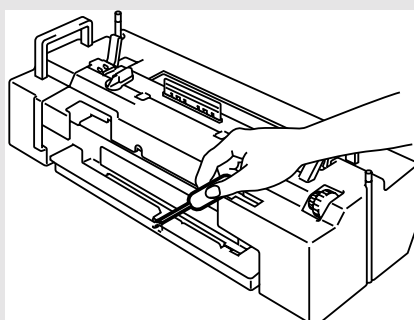

Fig. 5-51
- Remove the Oil Bottle, and then use the syringe supplied with the printer to remove Oil from the Fusing Unit tray. Using a cloth, wipe up any remaining oil that cannot be removed with the syringe as shown in Fig. 5-51.